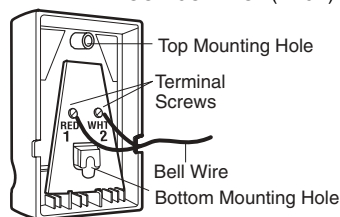

Figure 4 REMOVE COVER
2. Remove cover by gently prying at slot in top of the cover with a small flat head screwdriver (Figure 4). Fasten with 6ABx1-1/4" self-tapping screws (drywall installation) or 6-32x1" machine screws (into gang box) as follows: